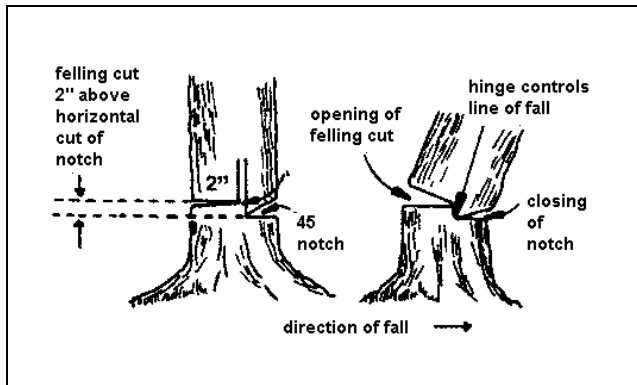

Figure 2. Tree fall direction can be closely controlled with properly made notching and felling cuts.
5. Make felling or back cut on the opposite side of the trunk 2 inches above and parallel to the horizontal notch. Leave wood fibers to act as a hinge to keep tree from twisting and falling in the wrong direction or kicking back on the stump. (See Figure 2).